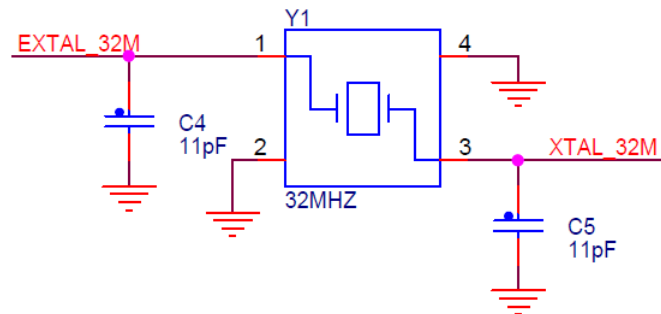

Figure 7. USB-KW40Z board's 32 MHz reference oscillator circuit
- 32 MHz Reference Oscillator - Figure 7 shows the external 32 MHz external crystal Y1. This mounted crystal must meet the specifications outlined in the AN3251 application note. The IEEE Std. 802.15.4 requires that the frequency be accurate to less than ± 40 ppm.